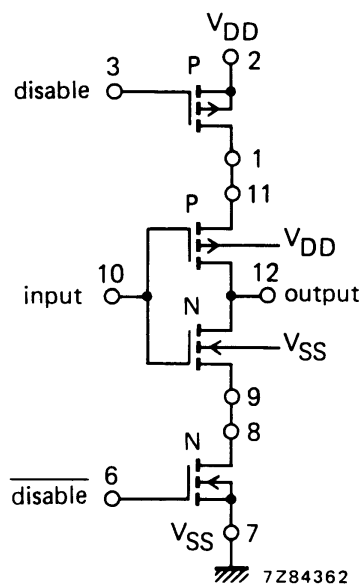

Fig.14 High impedance buffer.
**FUNCTION TABLE** for Fig.14.